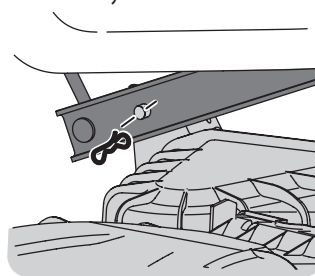

Figure 24
4. Looking at the deck from the left side of the tractor, locate the bow-tie pin on the rear left side of the deck. See Figure 24.
5. Remove the pin and slide the deck pin out of the deck lift arm. See Figure 24.